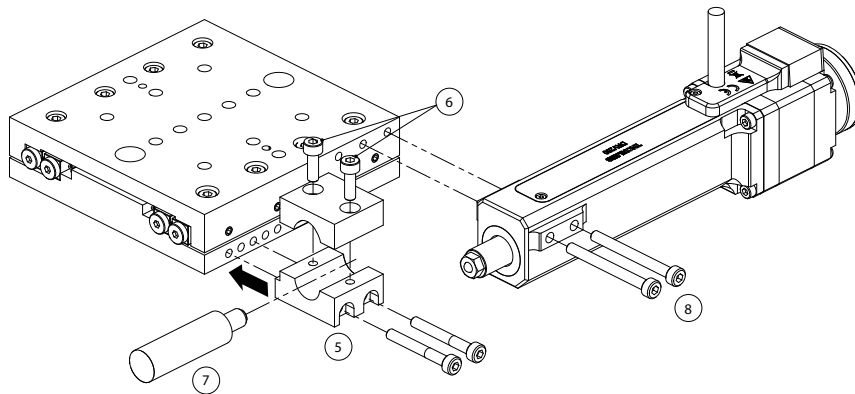

Fig. 4.8 Reconfiguring the Actuator Position
Referring to Fig. 4.8:
- 5) Refit the push block mounting block on the opposite side of the stage as shown in Fig. 4.8 and tighten the attachment bolts.